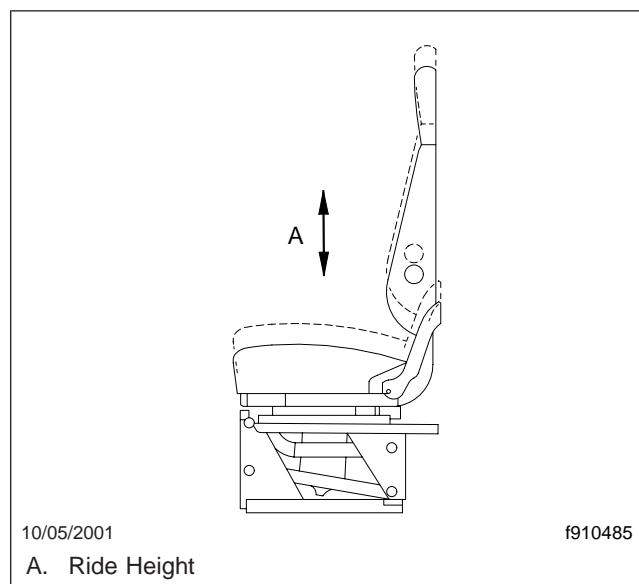

Fig. 5.9, Ride Height Adjustment
8. Ride Height Adjustment: The entire seat moves up or down when adjusting the ride height. The adjustment is either manual or air controlled, depending on the make and model of the seat (**Fig. 5.9**).